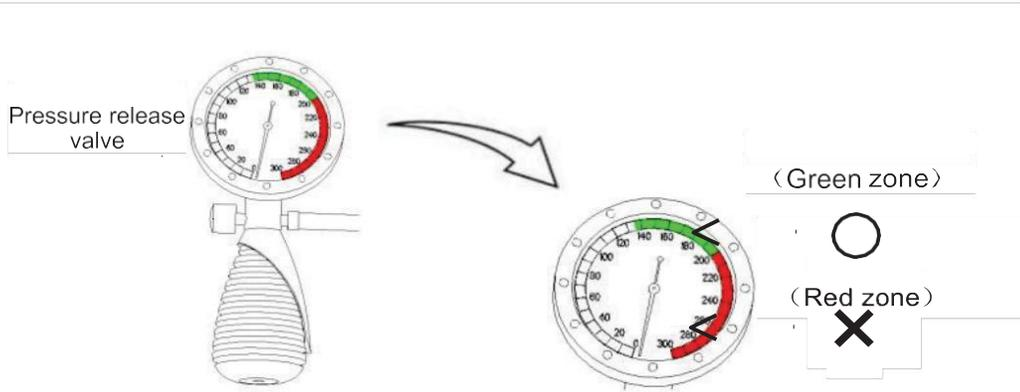

Fig 7.5
- The pressure shall not exceed 200 mmHg. If the pressure increases too much, it might damage the endoscope. Press the pressure release valve to discharge the air (as shown in Fig 7.5).